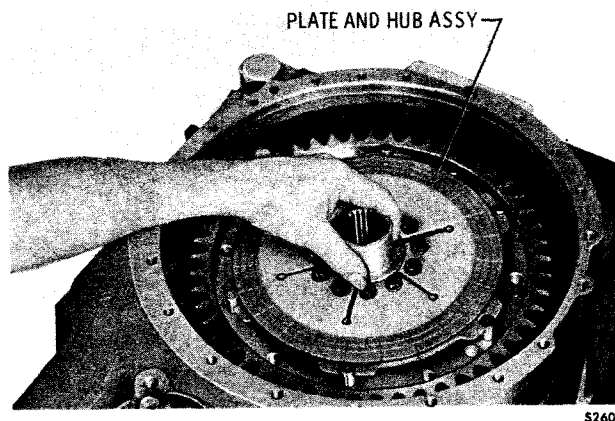

Fig. 7-22. Installing high-range clutch plate and hub assembly
(3) Install the high-range clutch hub (as assembled in para 6-17) onto the transfer drive gear (fig. 7-22). If the model is equipped with a power takeoff, install the high-range clutch hub as illustrated in figure 7-22. If the model is not equipped with a power takeoff, install